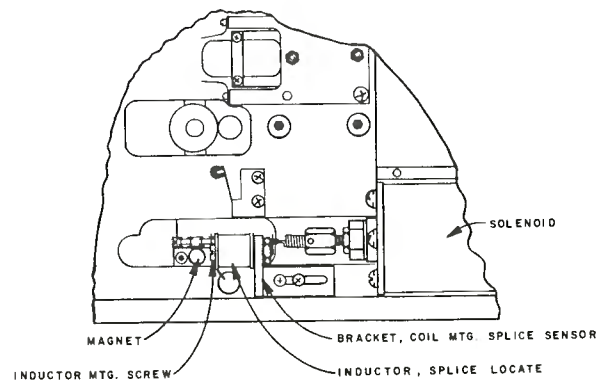

Figure 3-17
3. With solenoid energized and pressure roller running on capstan shaft, loosen the two screws mounting the bracket with the sensing coil on it. See Figure 3-17.